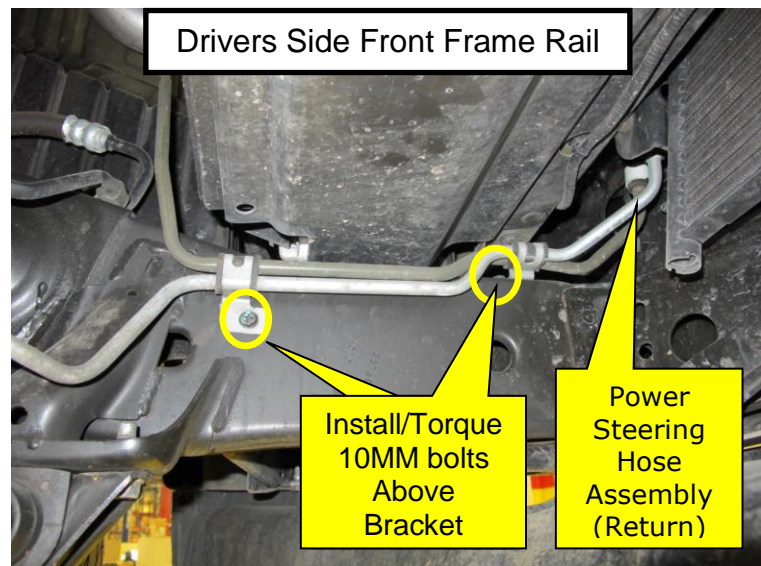

Figure 9
8. Reinstall Power Steering Hose Assembly (Return) bracket bolts (Figure 9).